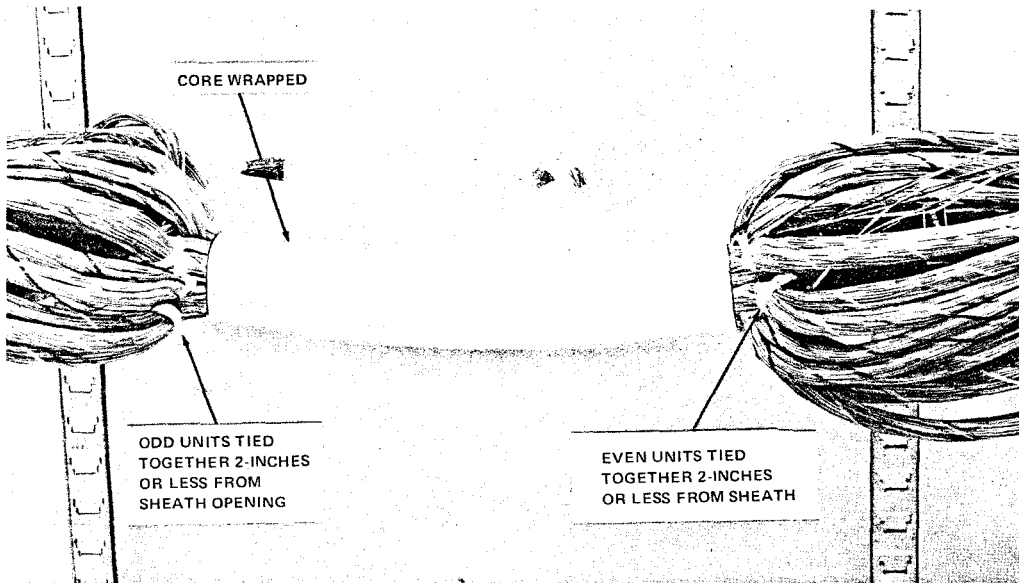

Fig. 44—Prepared Cable
- 6.03 Prepare the core of the splice (Fig. 44) align cable group by bringing the first unit from the right cable across the opening to the left cable. Match this unit with the first unit of the left cable and tie them together where they met. **Keep the distance between the sheath and tie to 2 inches or less.**